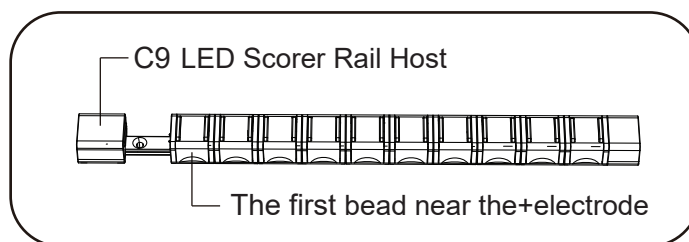

FIGURE 2
- If all the **(C8)** LED Beans don't light up, it is necessary to consider whether the **(C9)** LED Scorer Rail Host is damaged, and also whether it is the first bead near the+electrode that is damaged as shown in **FIGURE 2**.